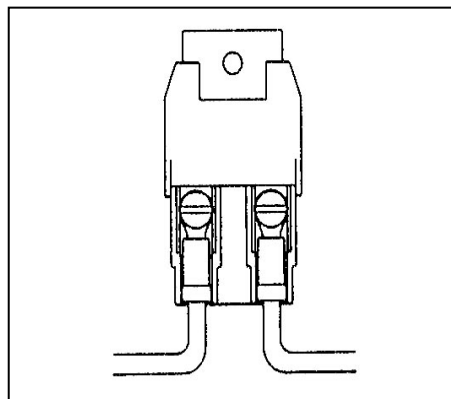

Figure 8.3 Maxi-Fuse
- A. With crimping tool, attach Maxi-Fuse (**Figure 8.3**) onto end of ENGINE SECTION (single 10-gauge red wire #716) after having routed wire from the Fuse Panel to the Starter Solenoid. **DO NOT OMIT IT!**
- C. Connect ENGINE SECTION A wire #719 (pur) to the Starter Solenoid Start (S) terminal.
- B. With crimping tool, attach Maxi-Fuse (**Figure 8.3**) onto end of ENGINE SECTION (single 10-gauge red wire #716) AFTER having routed wire from the Fuse Panel to the Starter Relay. **DO NOT OMIT IT!**
- D. Connect ENGINE SECTION A wire #719 (pur) to the Starter Relay Start (S) terminal.
- F. A 14-gauge wire connected from the Starter Relay (I) terminal to the ignition coil side of the Ballast Resistor serves as a Ballast Resistor BYPASS during engine starting. If you are not using a Ballast Resistor (or resistive wire), this jumper is not necessary.
- B. With crimping tool, attach Maxi-Fuse (**Figure 8.3**) onto end of ENGINE SECTION (single 10-gauge red wire #716) AFTER having routed wire from the Fuse Panel to the Starter Relay.
- F. A 14-gauge wire connected from the Starter Relay (I) terminal to the ignition coil side of the Ballast Resistor (or resistive wire) serves as a Ballast Resistor BYPASS during engine starting. If you are not using a Ballast Resistor (or resistive wire), this jumper is not necessary.
- 10.2.1 With crimping tool, attach Maxi-Fuse (**Figure 8.3**) onto end of ENGINE SECTION (single 10-gauge red wire #716) AFTER having routed wire (with or without ammeter) from the Fuse Panel to the Starter Relay. DO NOT OMIT IT!